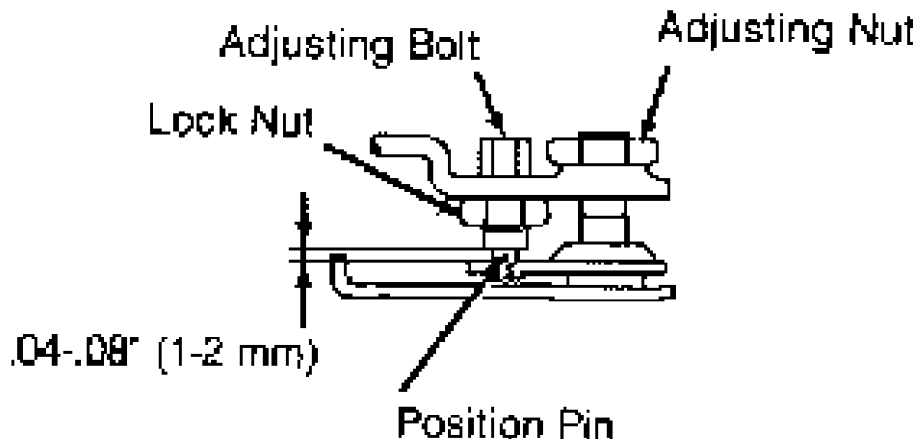

Fig. 1: Adjusting Tilt Mechanism (M30 & Q45)
1) To adjust tilt mechanism on tilt steering column, move tilt lever to lock position. Securely tighten adjusting nut. See Fig. 1. Turn tilt lever to free position and ensure steering column moves smoothly without binding.
2) Return tilt lever to lock position. Ensure steering column does not move when steering wheel is pushed up or down. Ensure position pin works smoothly. See Fig. 1.